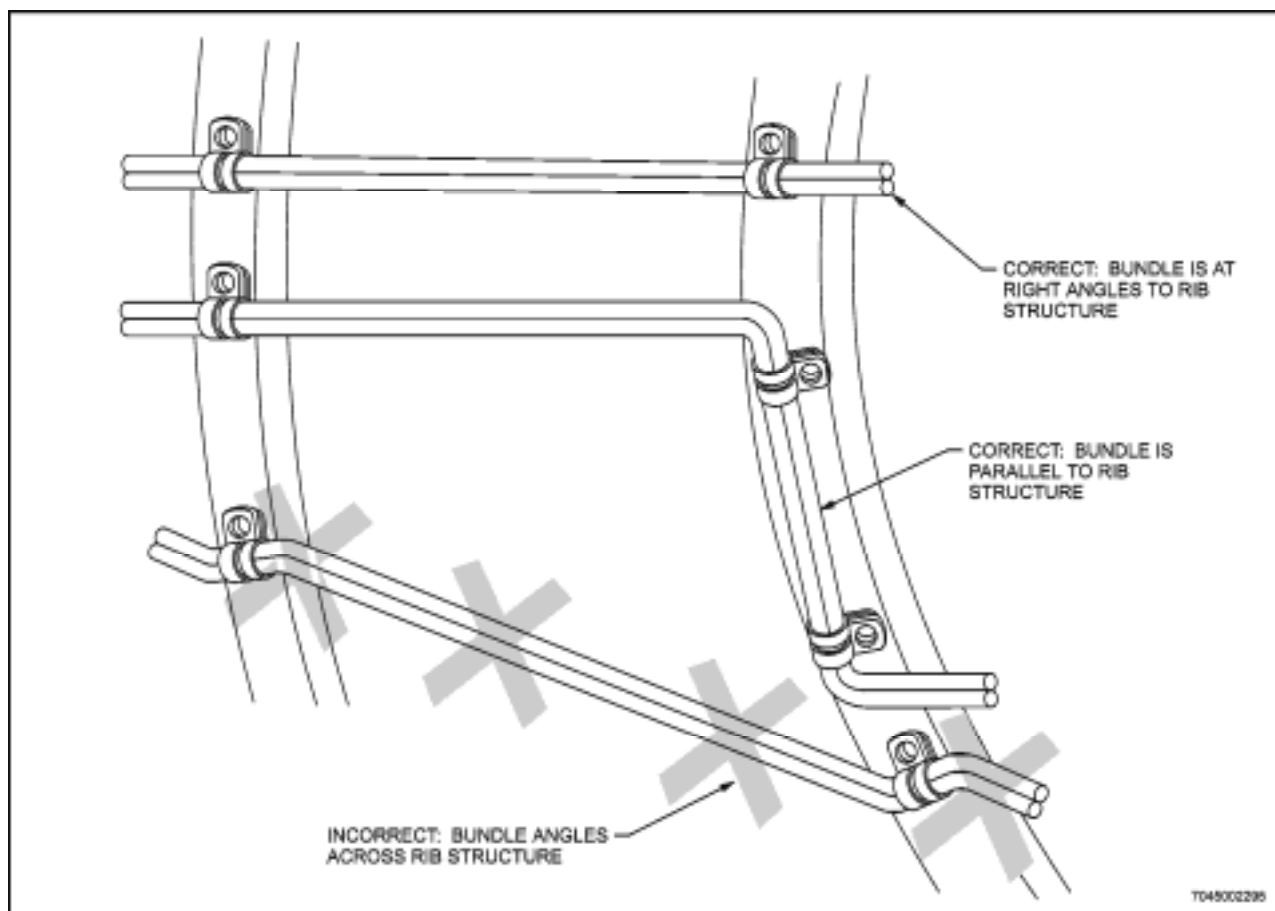

Figure 4-4 Routing Bundles
16. Install wiring so that it is mechanically and electrically sound, and neat in appearance. Wherever practicable, route wires and bundles parallel with, or at right angles to, the stringers or ribs of the area involved, as shown in Figure 4-4.